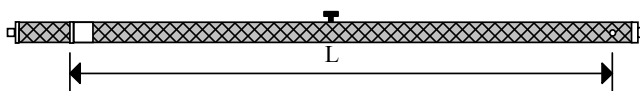

Figure 1 Measuring Tube Length
1. Measure L , the length of the copper tube at room temperature. Measure from the inner edge of the stainless steel pin on one end, to the inner edge of the angle bracket at the other end (see Figure 1). Record your results in Table 1.